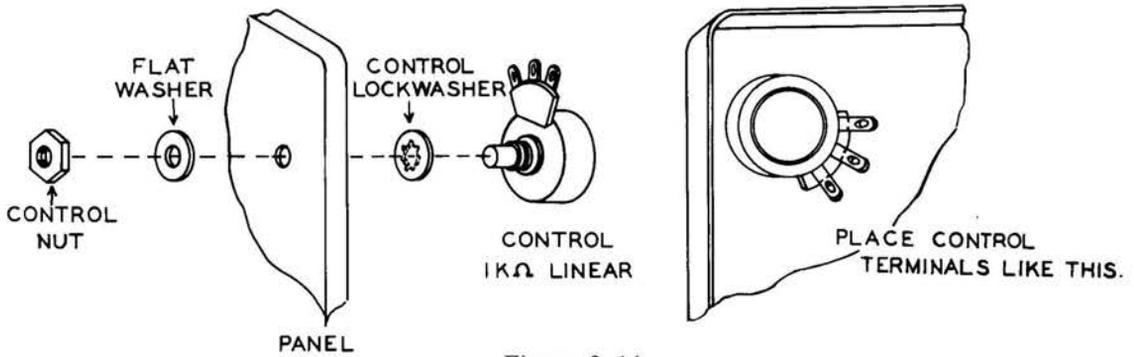

Figure 3-14
- (1) Mount the $1000\ \Omega$ control next to the words "OHMS-ADJ", with terminals as indicated by Figure 3-14. Attach the small black knob to the shaft.